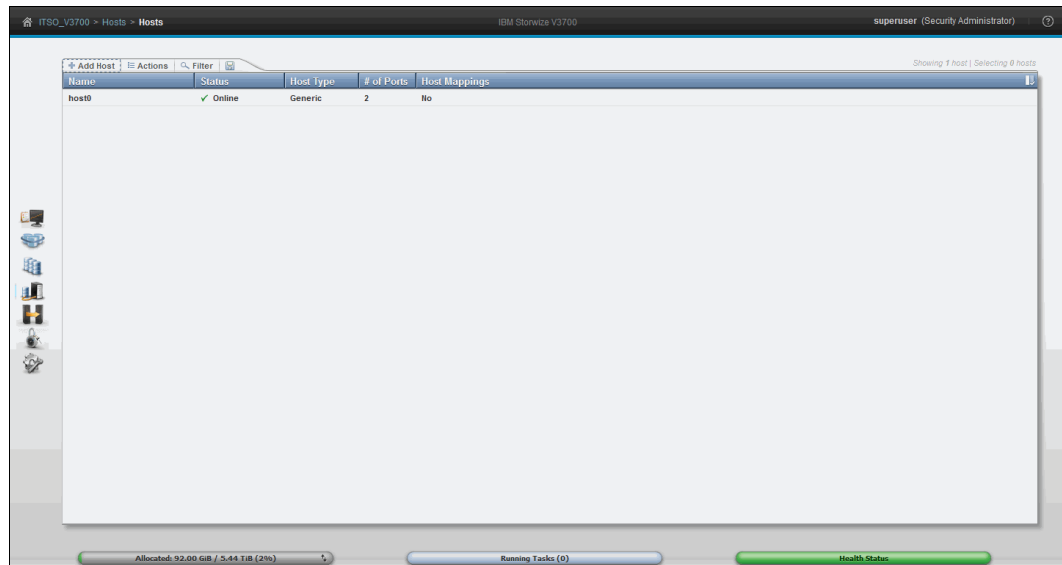

Figure 4-59 The Hosts view with the newly created host object listed
8. Click **Close** to return to the host view, which should now list your newly created host object, as shown in Figure 4-59.